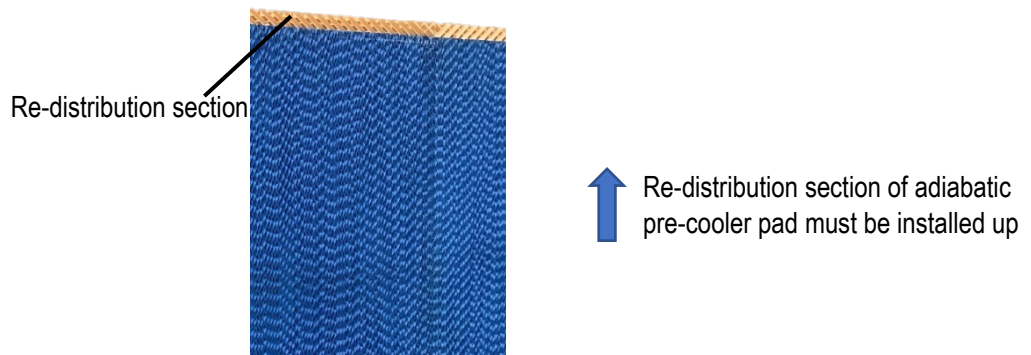

Figure 7. Re-distribution section of adiabatic pre-cooler pad
3. Reinstall the adiabatic pre-cooler pads in the reverse order of removal. Always re-install the adiabatic pre-cooler pads with the blue protective coating on the outside face. Always ensure that the re-distribution section of the pad is at the top of the unit per **Figure 7**.